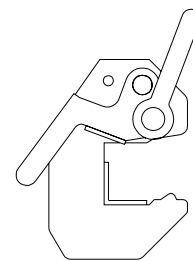

Fig. 19.3
1. Open the safety lever as far as possible (Fig. 19.3).